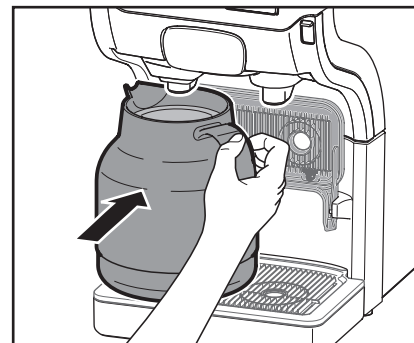

Fig. 12
- Place the pot on the drip tray (fig. 12).